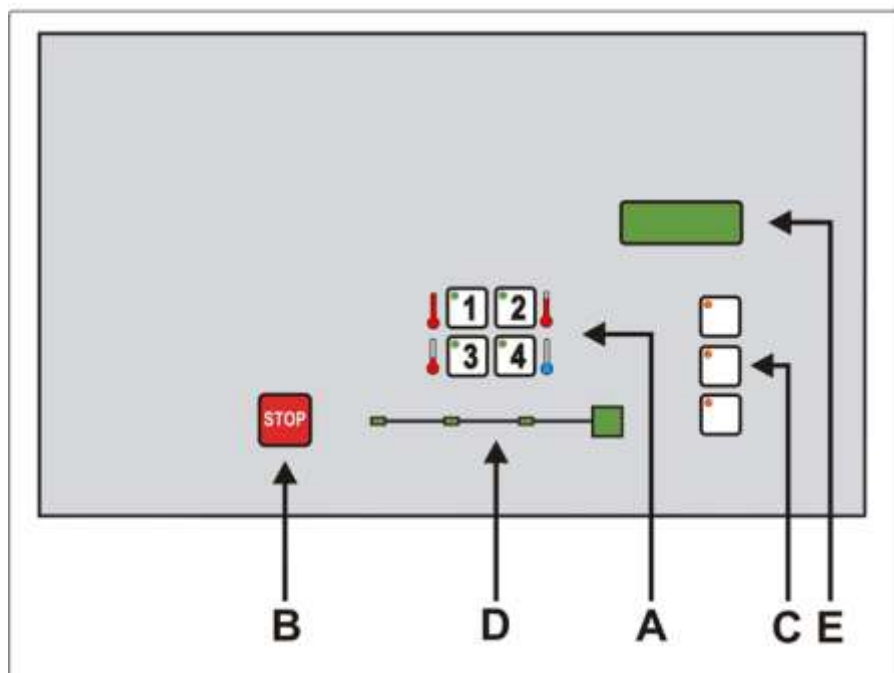

Fig. 4.2
**Symbols used in the dispenser** (Fig. 4.2, 4.3, 4.4 and 4.5)